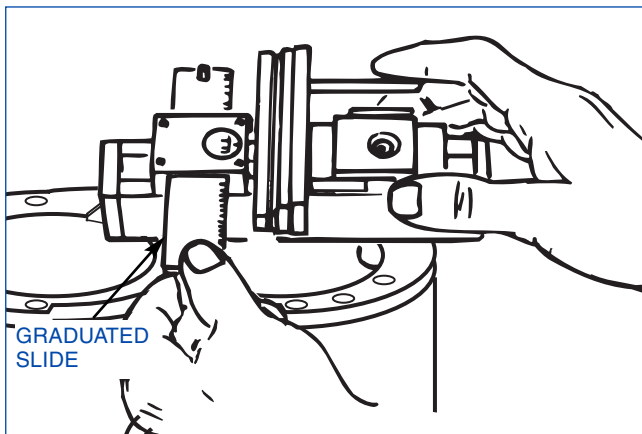

FIGURE 2-7, Main & Centering Guides
8. Place Guide/Stone Assembly in Setting Gage with graduated slide set at "0" (see Figure 2-7).